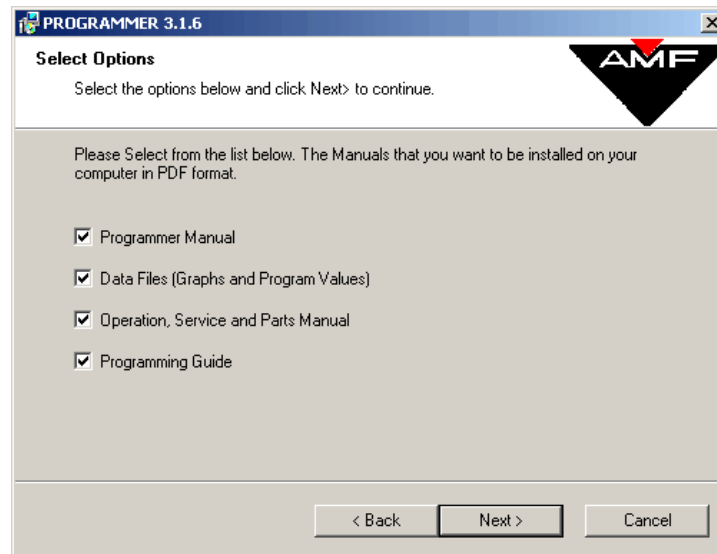

Figure 1-10
12. The next set of options allows you to specify which manuals that you would like to have loaded to your computer (**Figure 1-10**). All of these manuals require Adobe Acrobat Reader 5.0 or higher which is provided for you on the cd if needed. By default, all the manuals will be loaded on the computer unless unchecked. It is recommended to keep the default settings and click on the <Next> button. Refer to the manuals included with your lane machine for the most recent information.